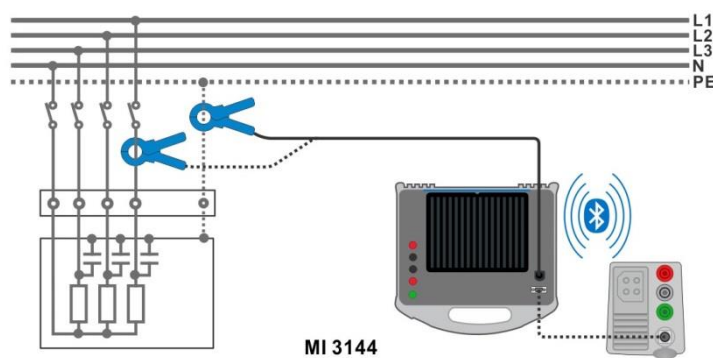

Figure 7.109: Current Clamp Meter measurement
- › Wrap the object under test with the measuring clamp. See **Figure 7.109**. Refer to *MI 3144 Euro Z 800 V Instruction manual* for detailed information.